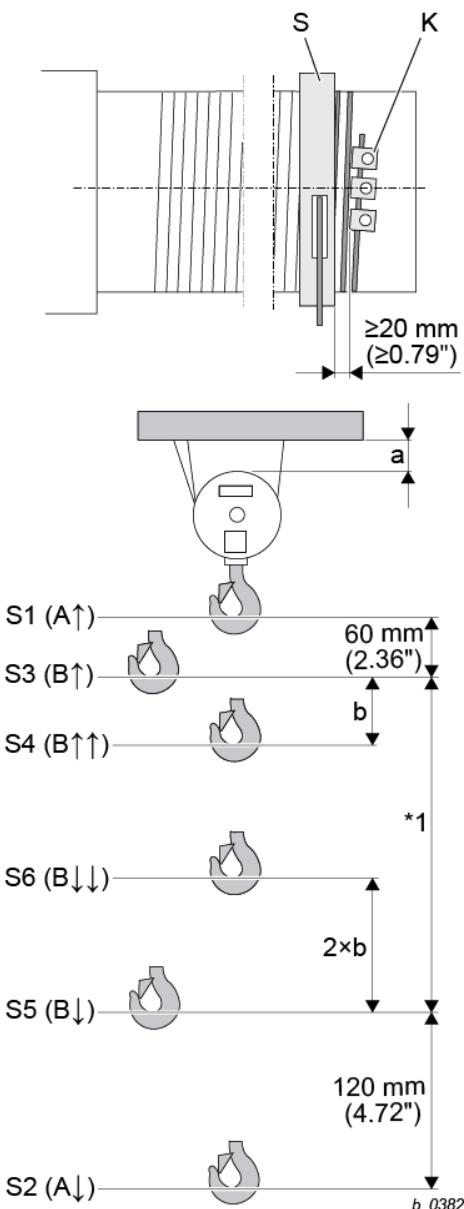

Fig. 79
8. Minimum clearance between rope guide (S) and clamping claws (K) for rope anchorage = 0.79 in, see Fig. 79, if necessary reset hoist limit switch (see page 72, section 7.10.6 “Setting hoist limit switch”).